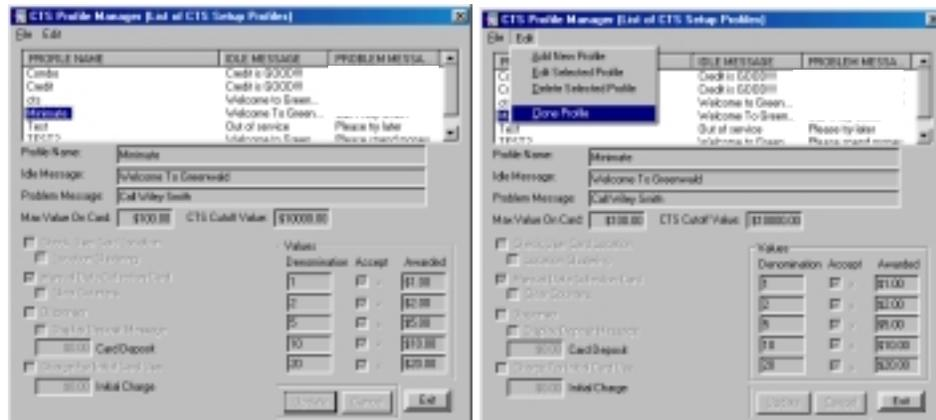

Figure 9.8 Cloning a Cash CTS Profile
2. Click the profile to clone from the Profile List Window (Figure 9.8).
3. Select Clone Profile from the Edit drop-down menu (Figure 9.8).